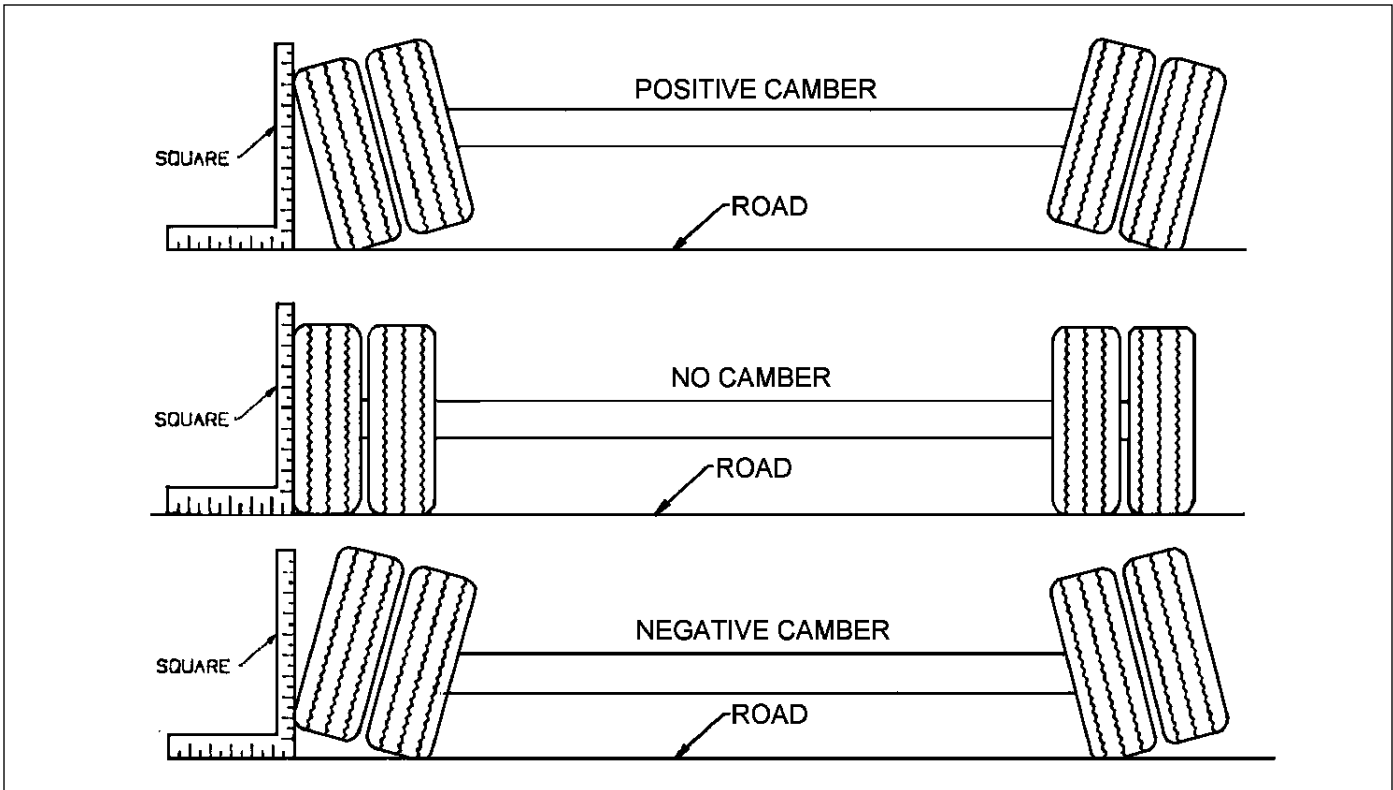

Figure 4-7: Examples of Camber
4. Follow the same procedures as in Steps 2 and 3, except place the axle gauge above and below the axle. If gauge point gap is found, the axle has positive or negative camber. The trailer axle has no camber from the factory. If it is found to have positive or negative camber, axle replacement is necessary (See Figure 4-7 for examples of camber).